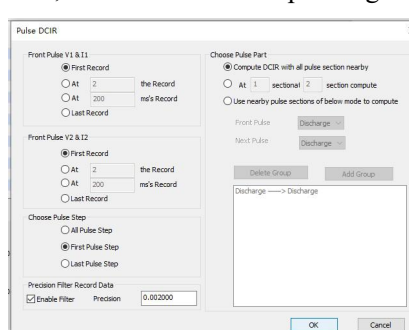

Figure 6-10 Pulse DCIR setting
② **DCIR-P**: Through the pulse discharge step, to calculate the internal resistance. Currently, only part of the BTS9 equipment has this function. Select the **Pulse DCIR** button to enter the pulse DCIR setting interface, as shown in Figure 6-10: